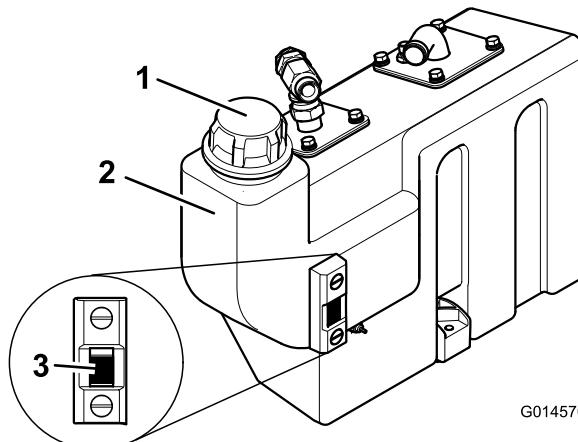

Figure 26
- Mobil EAL Envirosyn H 46 (US)
3. If additional hydraulic oil is needed, clean the area around the filler neck and the cap of the hydraulic tank (Figure 26) and remove the cap.